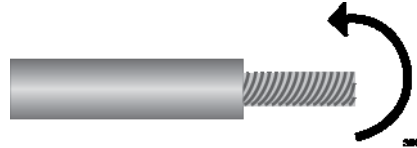

Figure 9. Wrapping Wire Strands
- When using stranded wire, always tightly wrap the wire with your fingertips. This is to prevent loose strands from touching adjacent wires and causing electrical shorts. Refer to Figure 9 on page 47.